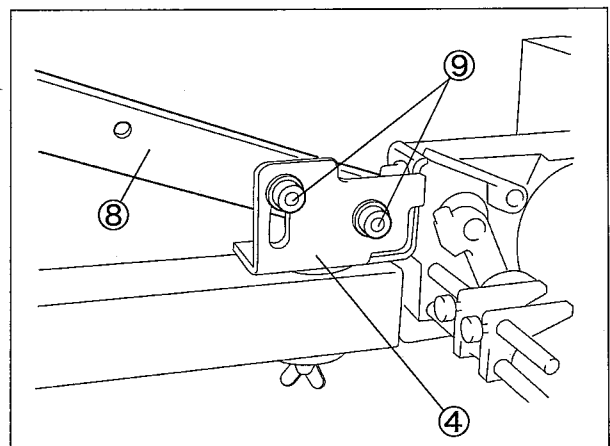

Fig. 2-12
3. Install the stay⑧ to the tape feeder bracket④ with the screws⑨. (Fig. 2-12)